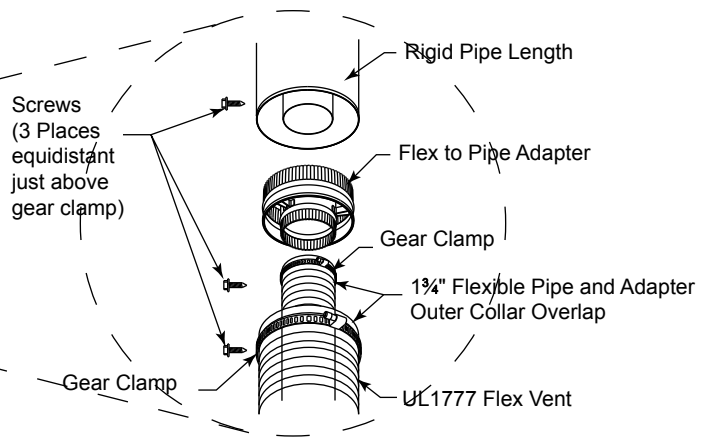

Figure 29 - Typical Pipe Connection
2. Review *Figure 29* and corresponding instructions for proper overlap, clamp and screw placement.
CAUTION A manual shutoff valve must be installed upstream of the appliance. Union tee and plugged ⅛" NPT pressure tapping point should be installed upstream of the appliance. *Figure 29*